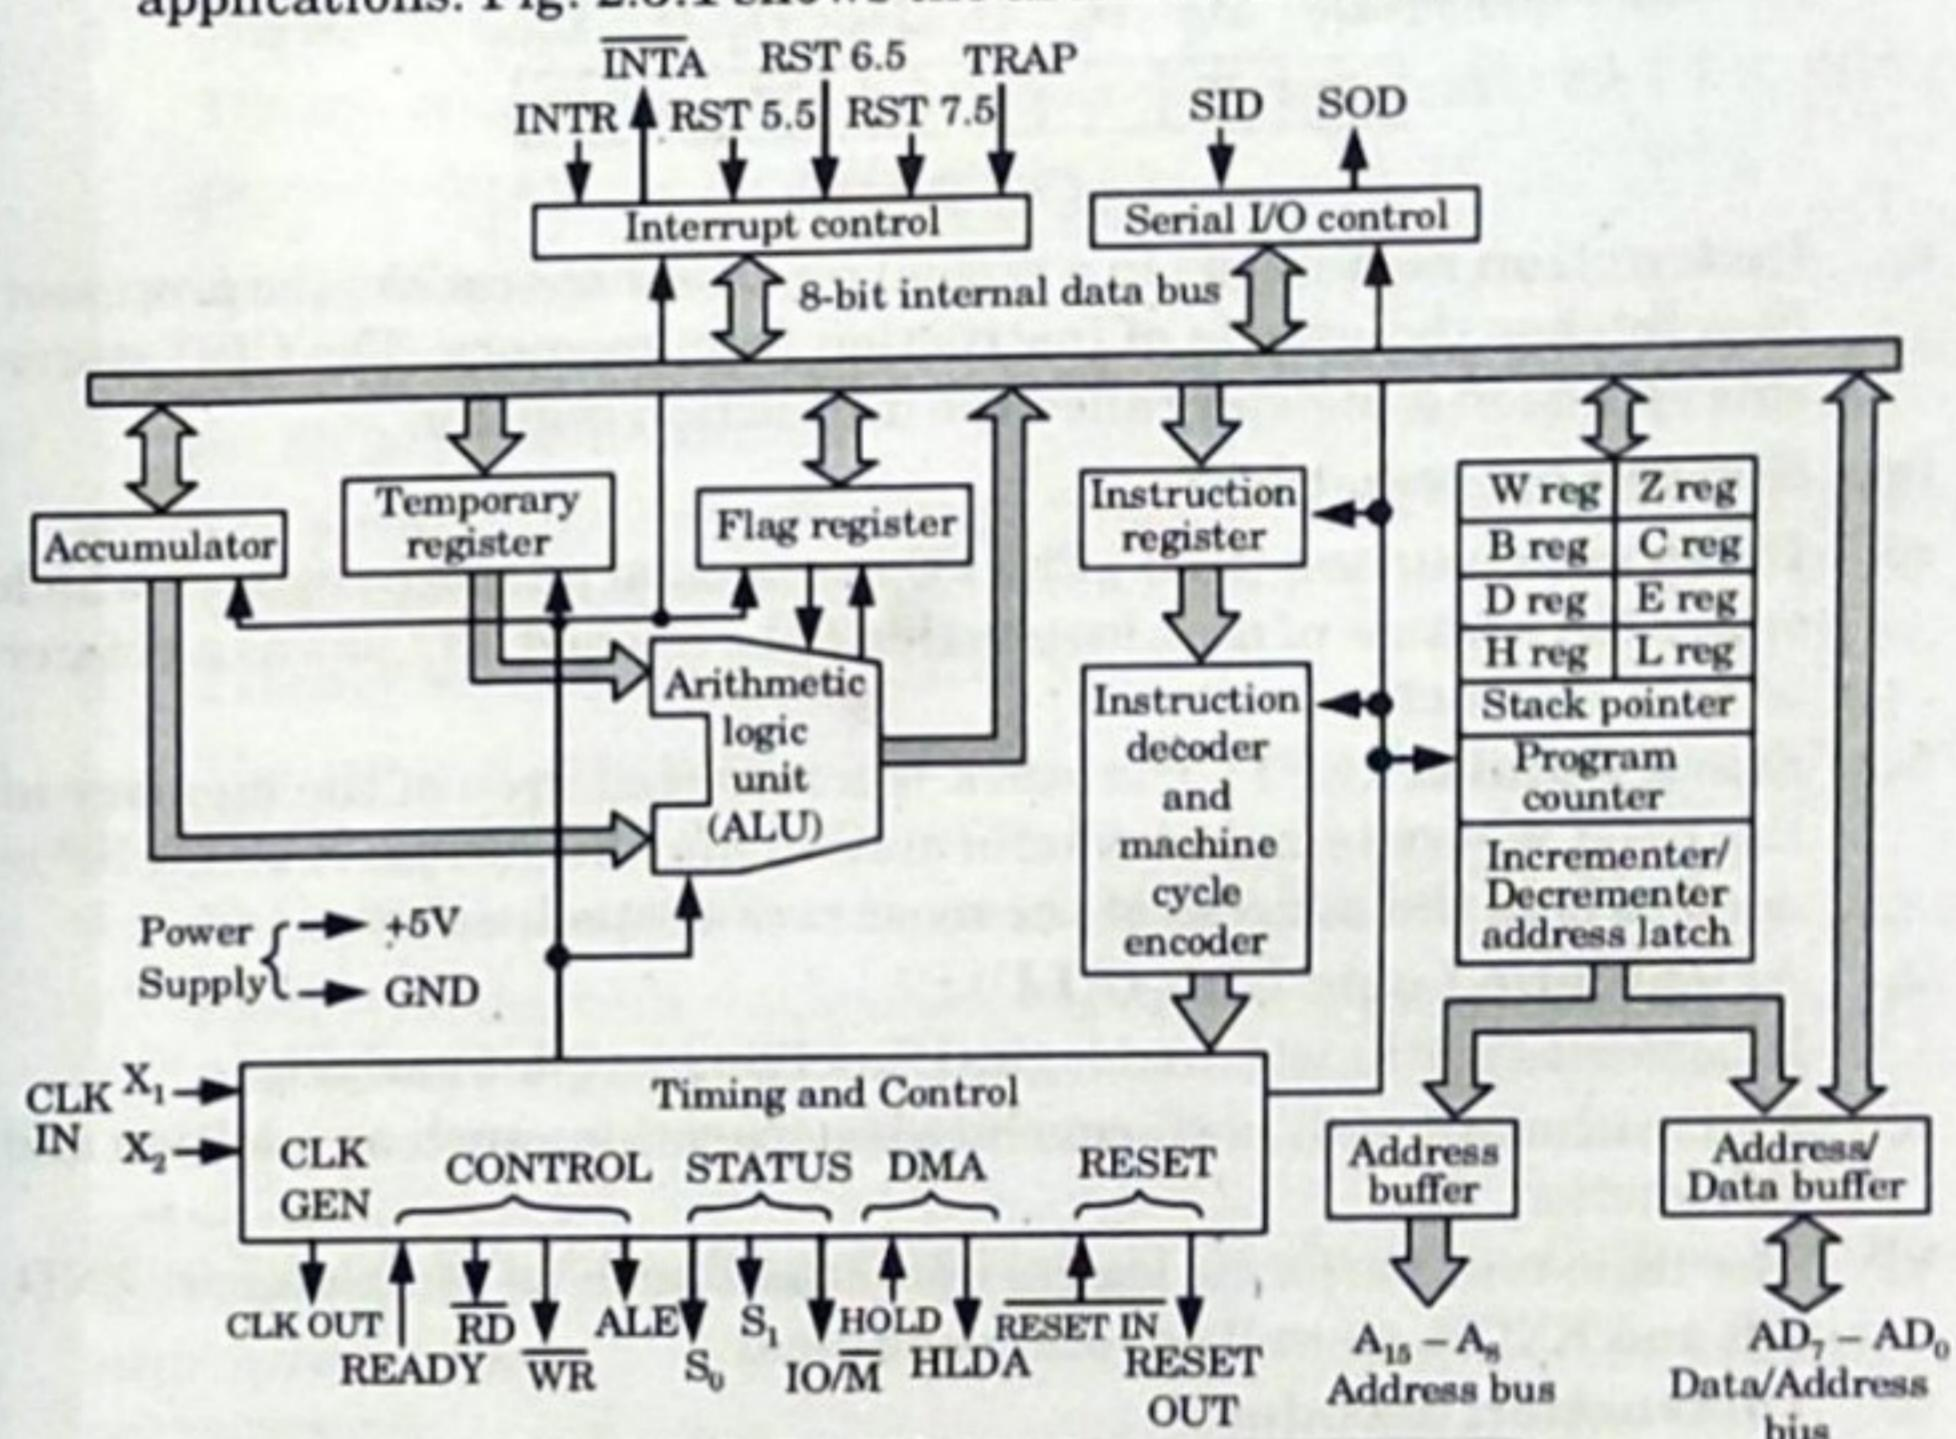

Fig. 2.3.1. Internal architecture of 8085.
- Internal architecture or functional block diagram** : The 8085 is an 8-bit, general-purpose microprocessor that is ideally suited to many applications. Fig. 2.3.1 shows the architecture of 8085.